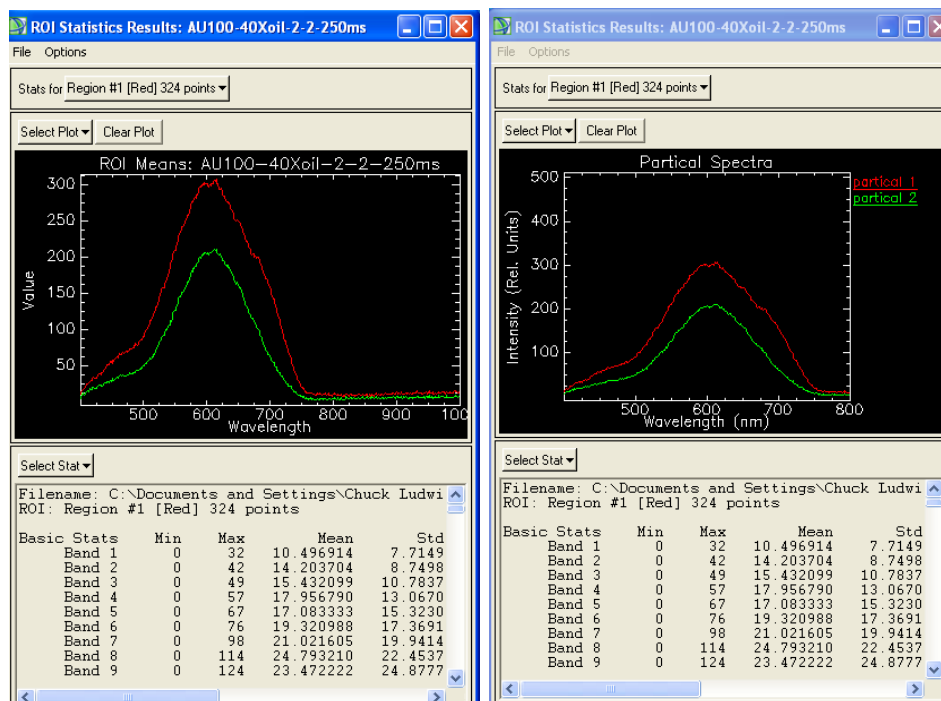

Figure 25. Spectral plots of ROIs.
- f. In the plot at the right, the labels are changed to refer to different particles (see Figure 25)